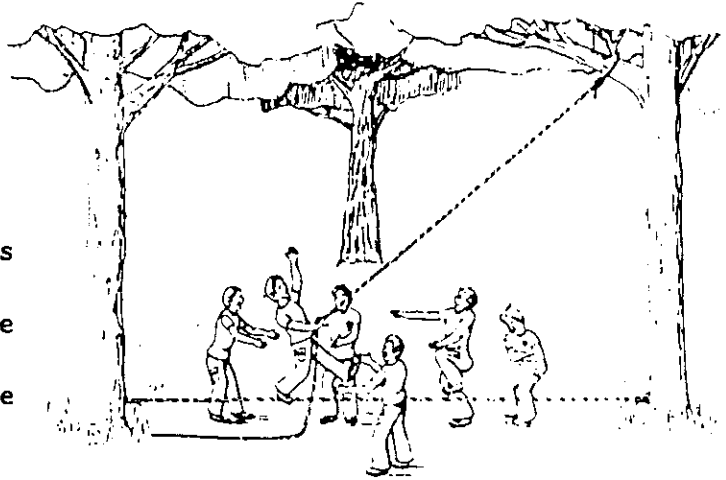

Figure 411 The Tension Traverse
32. The Tension Traverse: Secure a 30 foot cable or rope fairly tight between two trees about one foot off the ground. From one of the trees secure another rope about 20 feet up. This rope must be long enough so it will reach the other tree at the level of the first cable. Using only this rope as a balance, the object is to walk across the horizontal cable. See Figure 411. If this becomes too easy, use a diagonal rope from each tree and start one of the group from each side simultaneously. Passing each other makes this stunt a little more difficult.